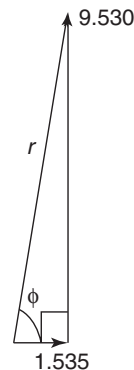

Figure 3.27
- (v) The components are shown sketched in Figure 3.27.